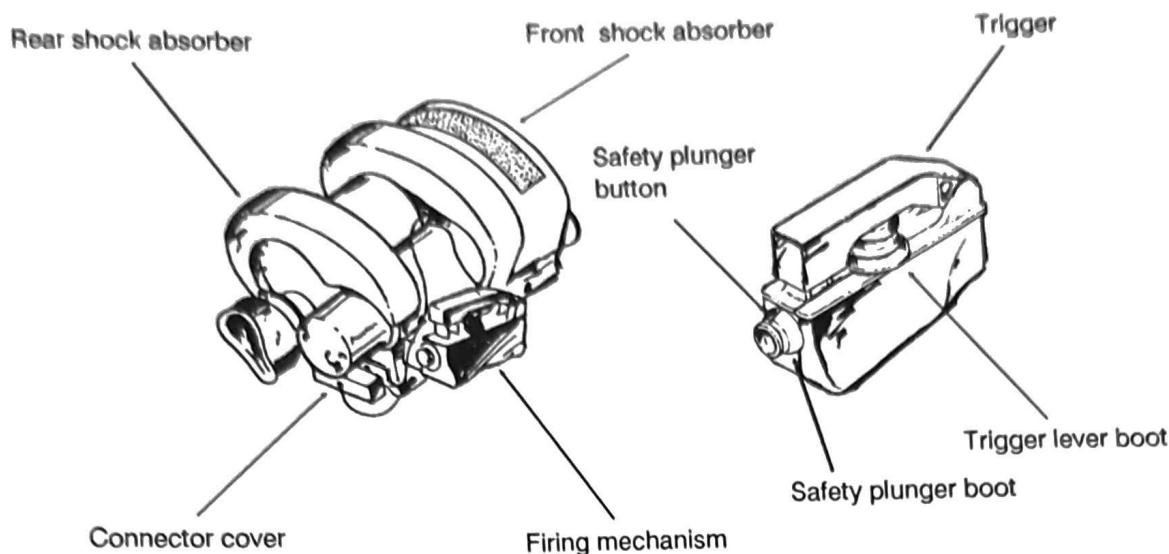

Figure 1-2. Day tracker parts.
(2) The day tracker is quickly attached to and removed from the round (Figure 1-2). The tracker has an aluminum housing assembly that contains an optical sight, infrared receiver assembly, and control signal comparator. On the right side of the housing is a firing mechanism. It consists of a trigger safety plunger and trigger level bar. The firing mechanism and safety plunger are protected by a moisture-seal rubber boot.
(3) A connector cover provides both mechanical and moisture protection for the electrical connector. It is attached to the tracker by a lanyard.
(4) Shock absorbers surround the forward and rear ends of the tracker